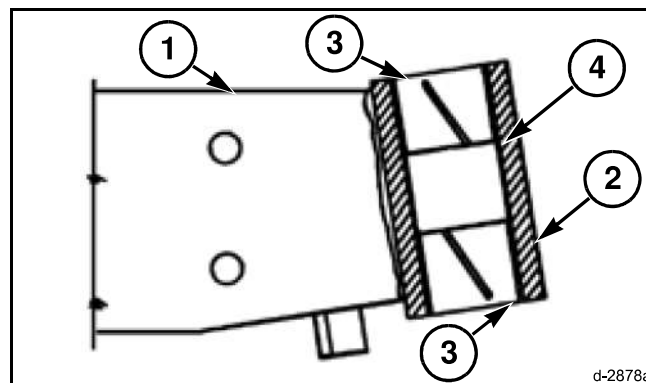

FIG. 48
FIG. 48: Position the spacer (4) so that the gap aligns with the lube fitting passage in the extension housing (2). Press the spacer to the center of the bore of the spindle housing in the extension assembly (1).